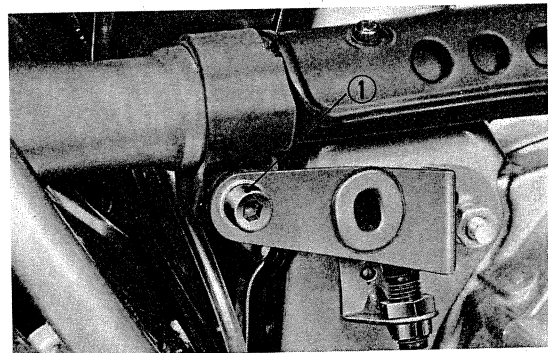

Fig. 23 ① Socket bolt
- 1) With the aid of a suitable Hollow set wrench, loosen the bolt at the muffler band securing the muffler to the exhaust pipe joint. (Fig. 23)